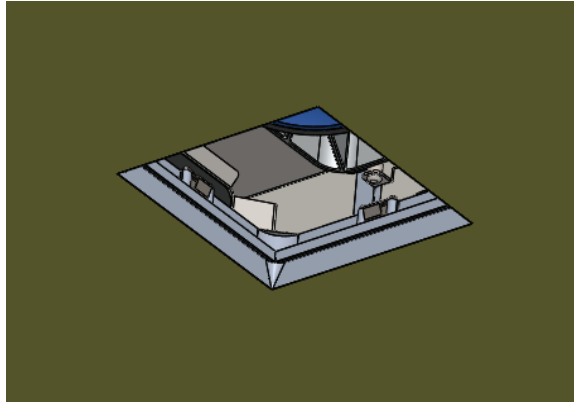

fig. 15
2. Apply skim coat up to the aperture rim using a joint compound. For best results, use a full ceiling float coat (see fig. 15).